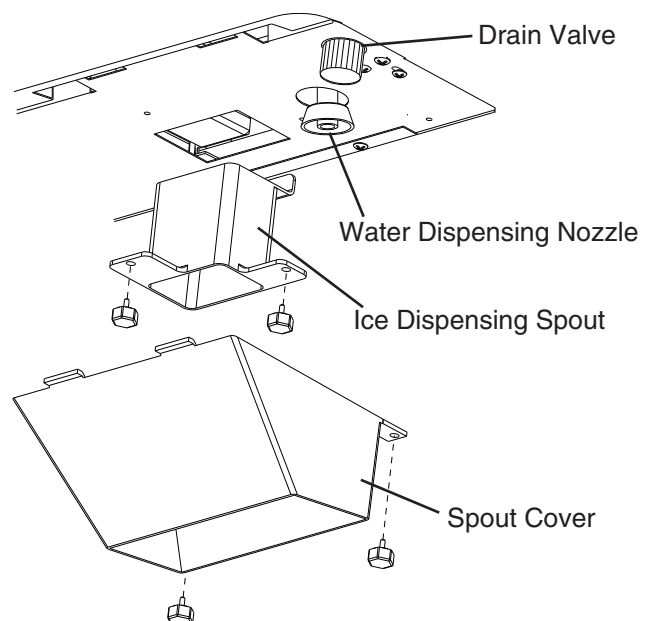

Fig. 7
8. Remove the spout cover, ice dispensing spout, and water dispensing nozzle. See Fig. 7.